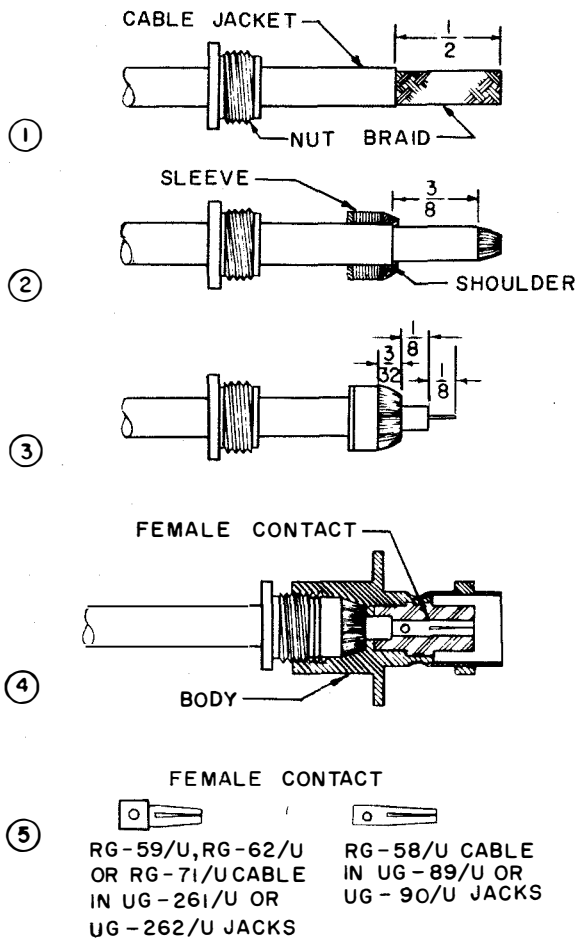

Figure 3-13. Assembly of Type BNC Connector to Cable
(3) Fan braid back over tapered shoulder of clamp, cutting off excess strands at flange. At a point 3/16 inch from point where braid fans back over clamp, cut sharply and squarely through polyethylene dielectric and down to inner conductor, being careful not to nick, bend, or otherwise damage inner conductor. Cut off end of inner conductor sharply and squarely 3/16 inch (maximum) from end of dielectric and taper slightly to mate easily with male contact. Tin end of conductor and hole in end of contact. Solder contact to inner conductor, making sure that contact is flush with and perpendicular to end of dielectric.
(4) Push body (with coupling nut attached) on to end of cable as far as possible. From other side, tighten nut into body.
e. ASSEMBLY OF TYPE BNC CONNECTOR TO CABLE. (See figure 3-13).
(1) Cut cable off sharply. Slide nut over cable. Cut off jacket 1/2 inch from end, being careful not to nick braid.
(2) Cut off inner insulation and wire under braid 3/8 inch from end of jacket; taper braid and slide sleeve onto cable. Inner shoulder of sleeve must fit squarely against end of cable jacket.
(3) With sleeve in place, comb out braid; fold back smooth and trim to 3/32 inch from end. Cut inner dielectric 1/8 inch from braid, being careful not to nick inner conductor, and cut off inner conductor 1/8 inch from end of dielectric.
(4) Tin inside hole of contact and center conductor of cable. Then slip female contact in place and solder; remove excess solder. Be sure cable dielectric is not heated excessively and swollen, so as to prevent dielectric entering body. Push dielectric into body as far possible; then slide nut into body and screw into place with a wrench until moderately tight. Hold cable and shell rigidly and rotate nut.